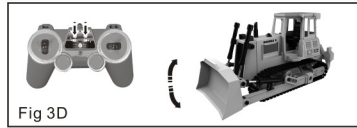

Fig 3D
- Press the up button, bucket up, down button, bucket down, up /During the descending operation, the car lights are on (fig 3D).